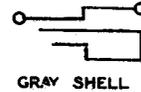

Fig. 15—320B Plug
2.14 **320B:** The 320B plug (Fig. 15) has the ring connector connected to the plug body and is not designed for cord connections. The 320B plug is used with a PIC cord in the portable test circuit for line finder type district selectors on the line finder frame in Panel Dial Systems. The 320B replaces the 320A and D-85619 plugs and is used with the 49- or similar-type jacks.